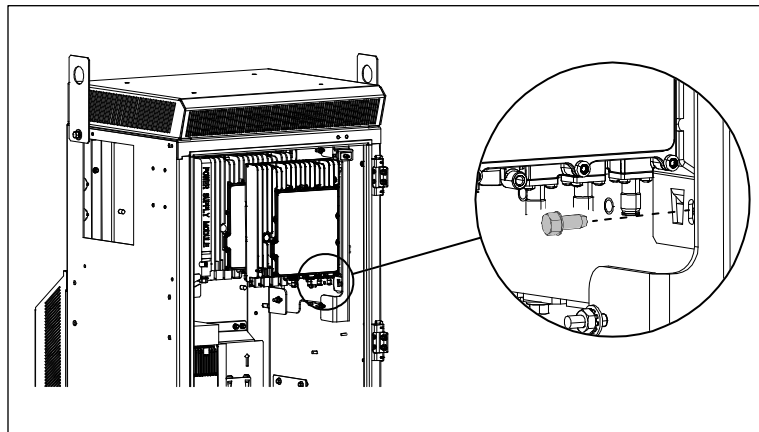

Figure 14 AirScale Radio into CUBE
2. Mount the radio/bracket assemblies back into the same position on the CUBE wall. Secure the brackets using the screws removed previously (Figure 14).